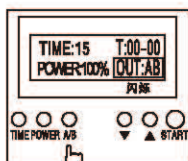

figure4
5. Press the "A/B" set of keys, pipe group choice is flashing, this time can pass (▲) on the down (▼) button to determine the desired output requirements, there are three output state: A: single output of group A, B: separate group B output; AB: A and B output simultaneously. After selecting the desired output state, press "A/B" to confirm. As shown in figure 4 below: